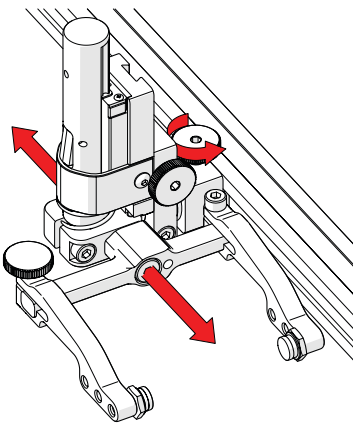

Fig. 104 - Adjust on frame bar
1. The probe holder adjustment knob allows the probe holder to be attached to a frame bar, as well as horizontal positioning on a frame bar (Fig. 104).